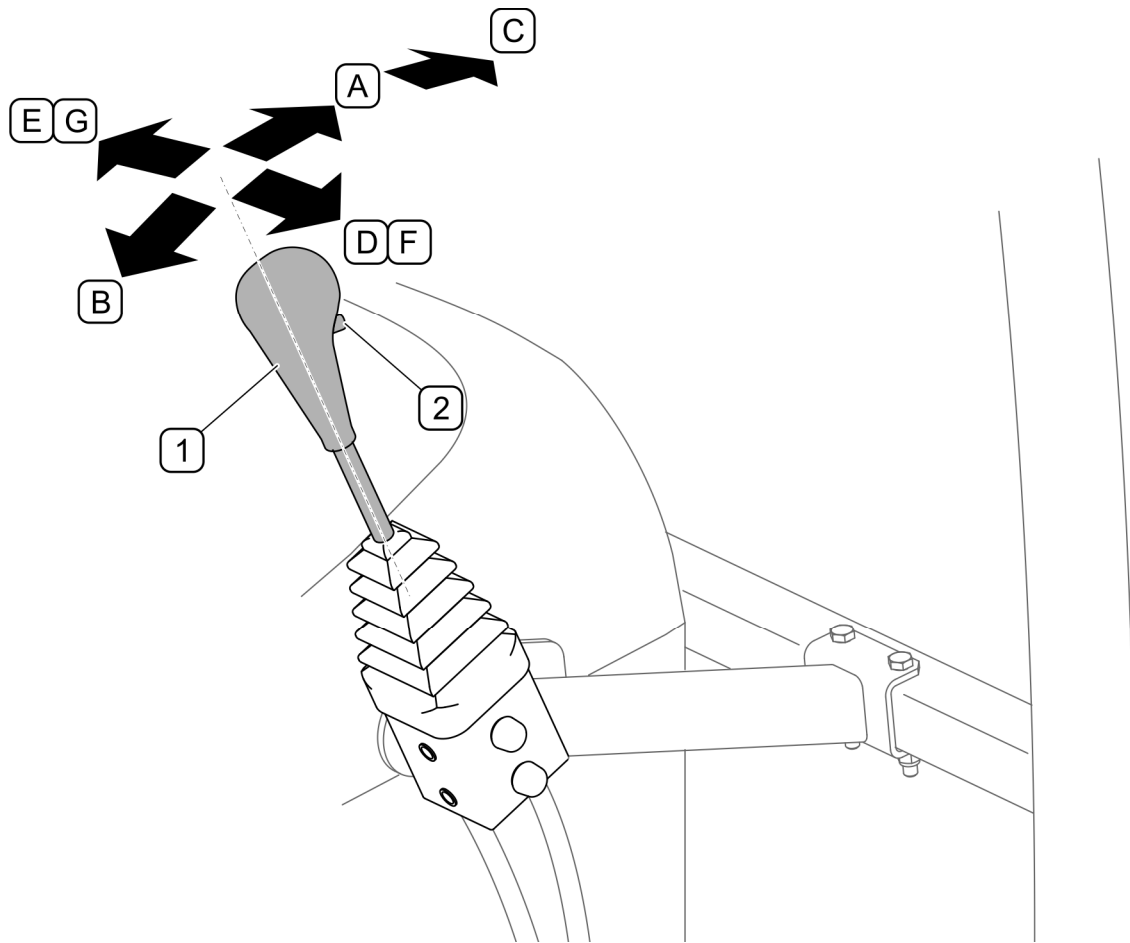

FIGURE 4.13 Loader control lever
Position (F) and (G) (FIGURE 4.13) is used in implements equipped with hydraulic system (e.g. manure grab, bale grab, silage cutter etc.) connected at the front to loader quick couplers. To open the implement set the lever to the extreme right position and additionally press button (2) in the lever handle. To close implement press button (2) and set control lever in left setting.